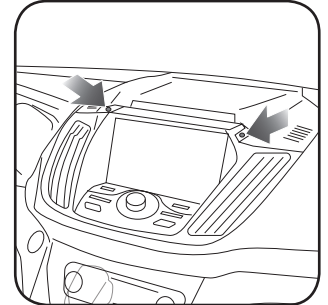

Fig. 1.2
2. Remove the two (2) 7mm screws from the radio bezel. (Fig. 1.2)